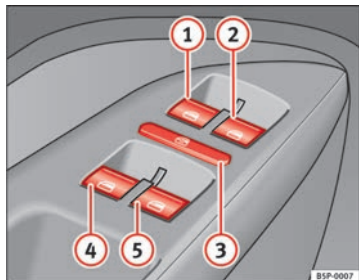

Fig. 69 Detail of the driver door: controls for the front and rear windows
The buttons ⇒ fig. 69 ① and ② have two levels for opening the window and two for closing it. This makes it easier to open and close windows to the desired position.